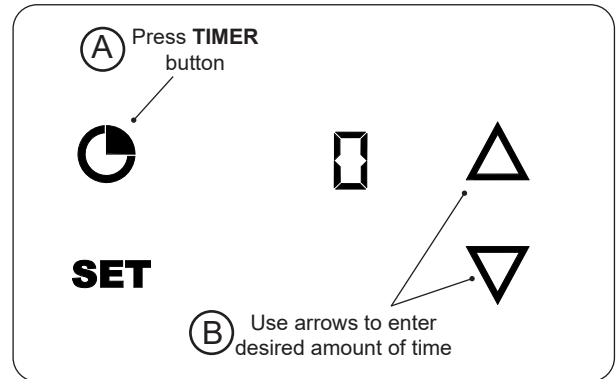

Fig. 40-1 Set timer
1. With the thermometer/thermostat **on**, press the **TIMER** button once (Fig. 40-1, A). A zero will display indicating that no timer is set.
2. Press the **UP** or **DOWN** arrows to enter the desired amount of time (Fig. 40-1, B).